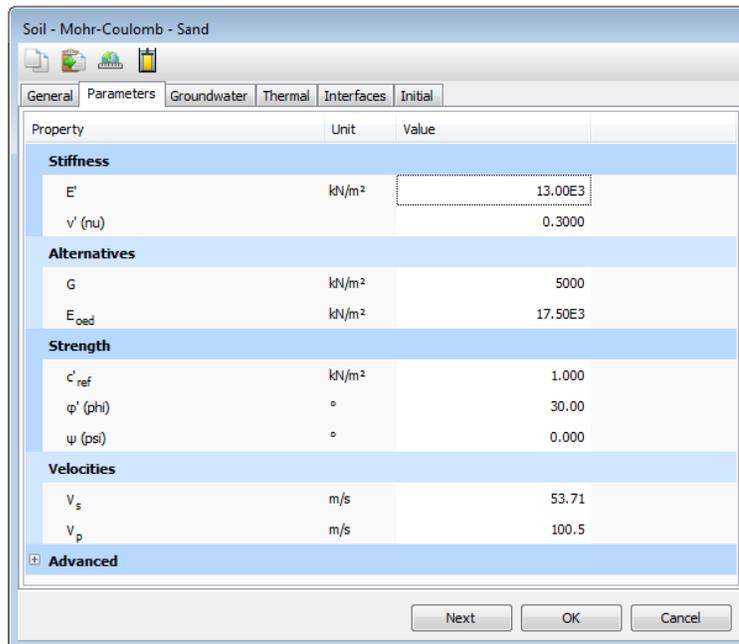

Figure 4: The **Parameters** tabsheet of the **Soil** window of the **Soil and interfaces set type**
6. Enter the model parameters of Table 1 (on page 12) in the corresponding edit boxes of the **Parameters** tabsheet (Figure 4 (on page 14)). A detailed description of different soil models and their corresponding parameters can be found in the Material Models Manual.